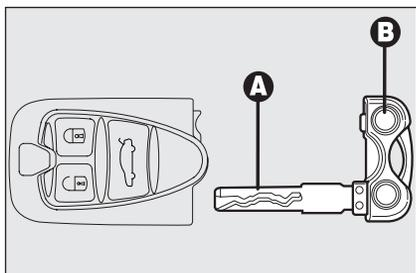

fig. 8
The electronic key **fig. 8** is fitted with a metal insert **A**, that can be extracted by pressing button **B**.
***Never leave the electronic key unattended to prevent anyone, especially children, from holding it and pressing button B-fig. 8 inadvertently.***